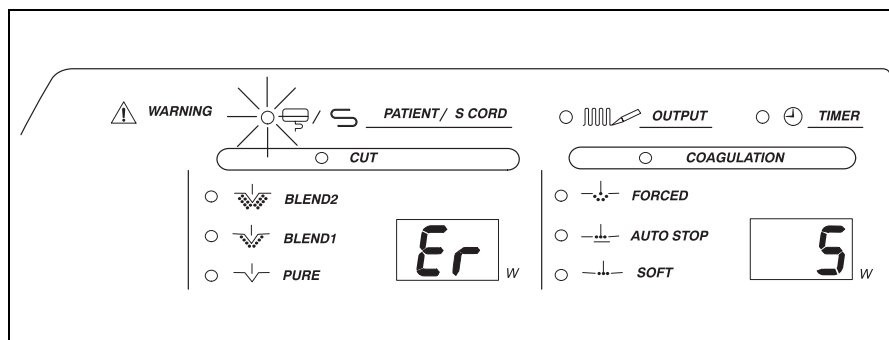

Figure 4.7
2. Confirm that the patient/S-cord warning indicator flashes and the warning alarm is heard and the indicators shown in Figure 4.7 light.